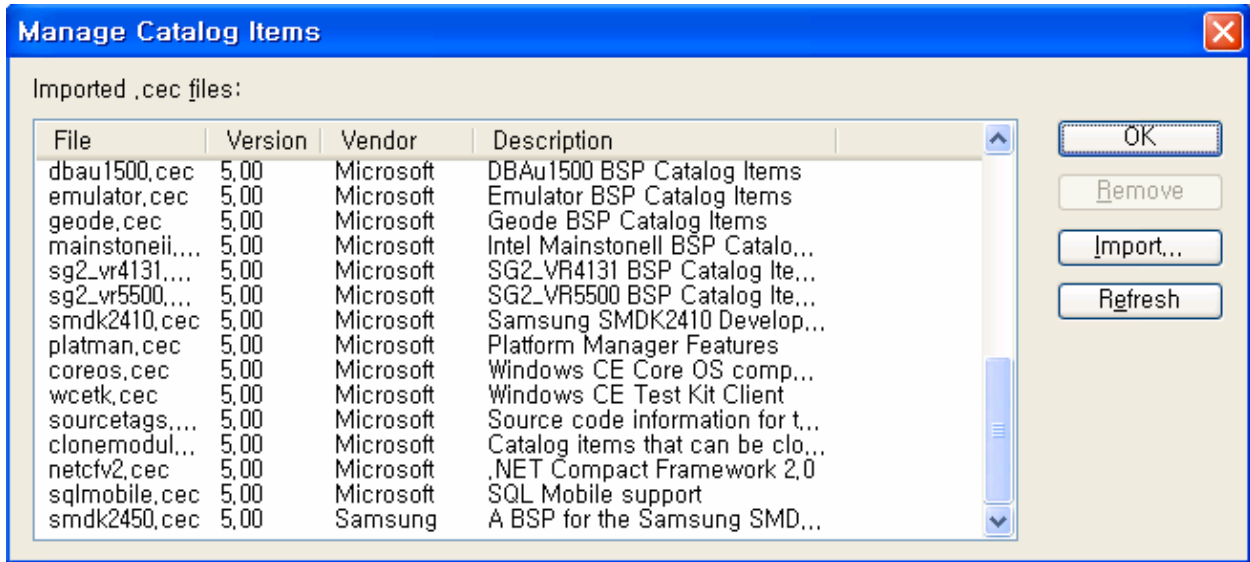

Figure 2-6 Manage Catalog Items Window after Adding SMDK2450.cec File
- Now **SMDK2450.cec** is added to **Imported .cec files: list** in **Manage Catalog Items** window as shown in figure 2-6. Click **Refresh** button first and then **OK** click button.